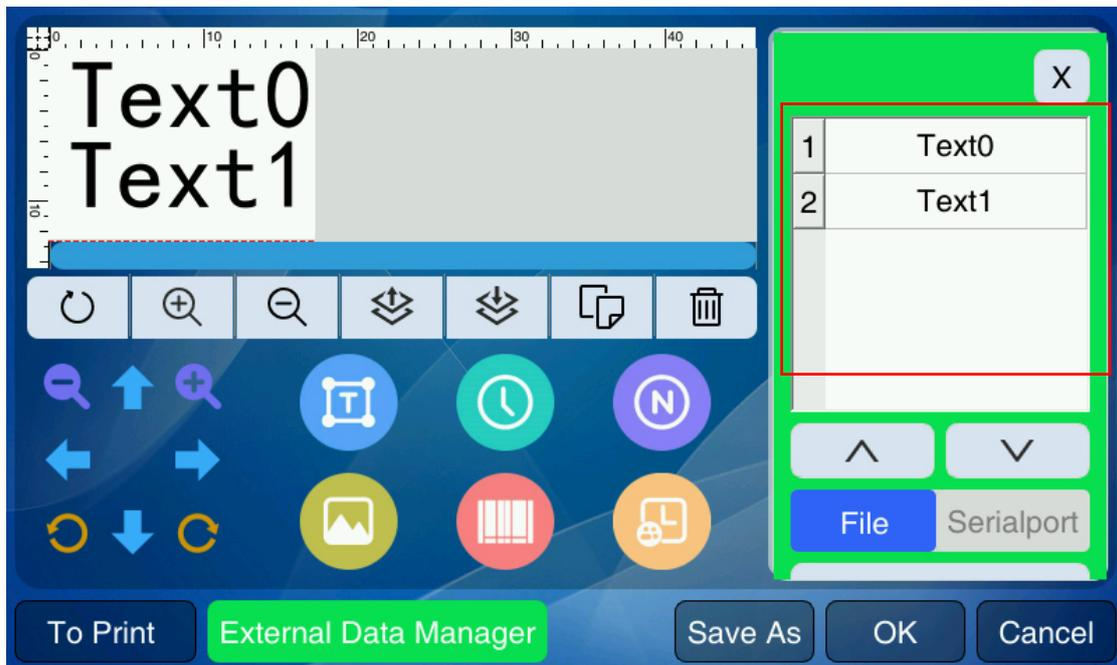

Figure 5-16 External data manage
1、Click **External Data Manager** button, The Information Property area on the right becomes the external data management page. As shown in Figure 5-16.
4、 Each load a line of data printing until the end of the file. On the page shown in Figure 5-16, set Start Line, End Line, and Current Line to be printed. After the job is complete, you can select Stop or Repeat printing.。